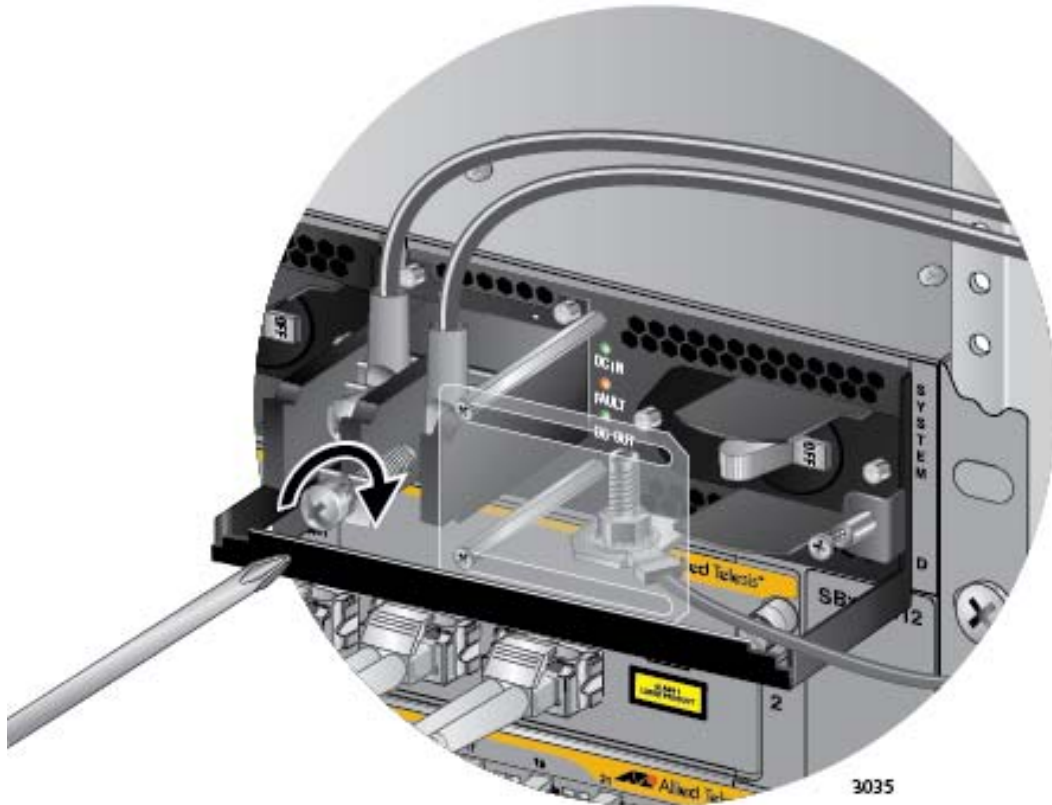

Figure 122. Connecting the Negative (-) Power Wire with a Straight Terminal
7. With a #3 Phillips-head screwdriver, connect the negative (-) power lead wire to the negative terminal on the power supply, with the remaining terminal screw removed in step 5. The negative terminal is on the right. You may attach the terminals with the wires either above or below the terminal block. Figure 122 on page 184 shows the wires above the terminal block.